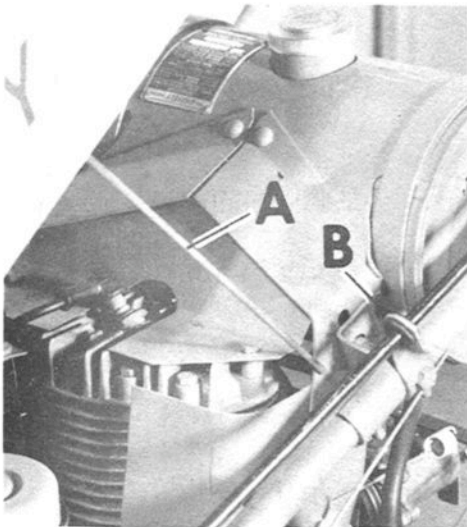

FIGURE 3
3. Insert end of Hood Support Rod (A in Figure 3) with hole in it through hole in Fan Housing Assembly, as shown in Figure 3. With Rod in position, insert Roll Pin through hole in Rod. NOTE: Current production Tractors have hole drilled in Fan Housing Assembly. If working on older Tractor, drill hole in approximate location shown in Figure 3 (9 1/2" from bottom and 1/4" from front of Fan Housing Assembly).
6. Be sure rubber Hood Channel (B in Figure 3) is in place on each Tractor Handle Bracket. Channels reduce vibration. NOTE: Current production Tractors have Hood Channels cemented to Tractor Handle Brackets. If working on a Tractor in stock, we recommend installing Hood Channels and cementing them to Tractor Handle Brackets.
2. Place Hood on Tractor so that Hood overlaps Tractor Handles. Be sure Hood Channels (B in Figure 3) are on Tractor Handle Brackets.